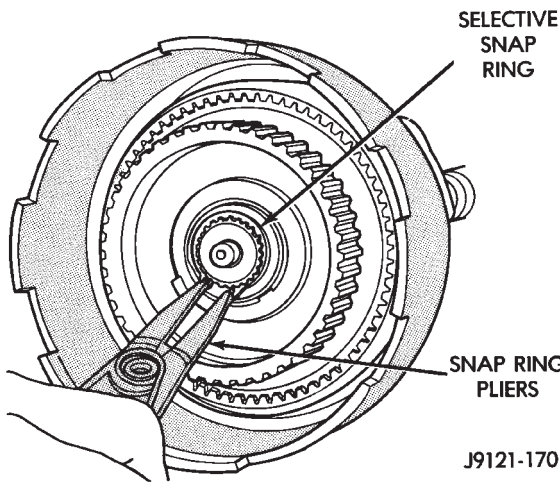
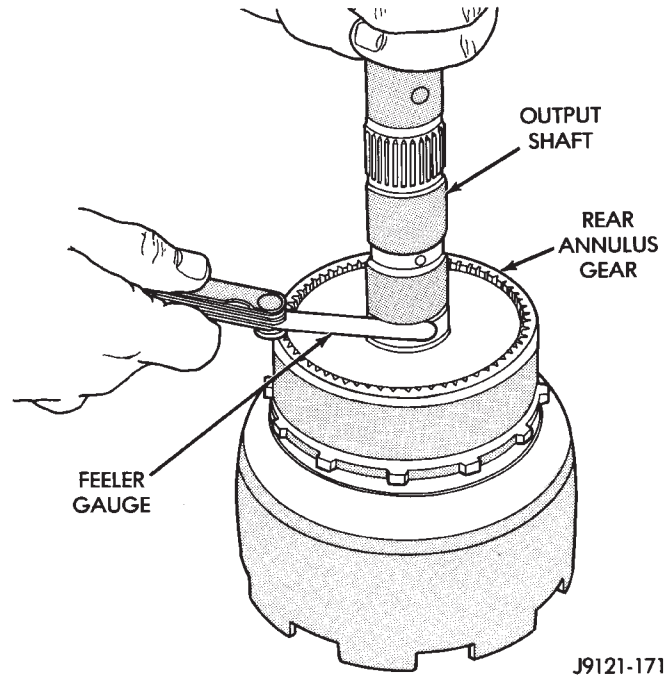

Fig. 166 Installing Planetary Selective Snap Ring
Fig. 167 Checking Planetary Geartrain End Play
(21) Install planetary selective snap ring with snap ring pliers (Fig. 166). Be sure ring is fully seated.
(22) Turn planetary geartrain assembly over so driving shell is facing workbench. Then support geartrain on wood block positioned under forward end of output shaft. This allows geartrain components to move forward for accurate end play check.
(23) Check planetary geartrain end play with feeler gauge (Fig. 167). Gauge goes between shoulder on output shaft and end of rear annulus support.
(24) Geartrain end play should be 0.12 to 1.22 mm (0.005 to 0.048 in.). If end play is incorrect, snap ring (or thrust washers) may have to be replaced. Snap ring is available in three different thicknesses for adjustment purposes.